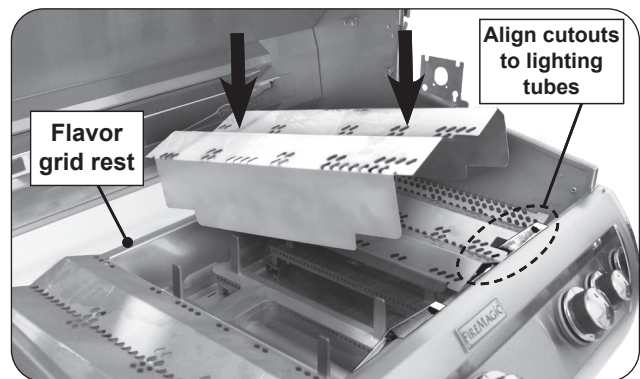
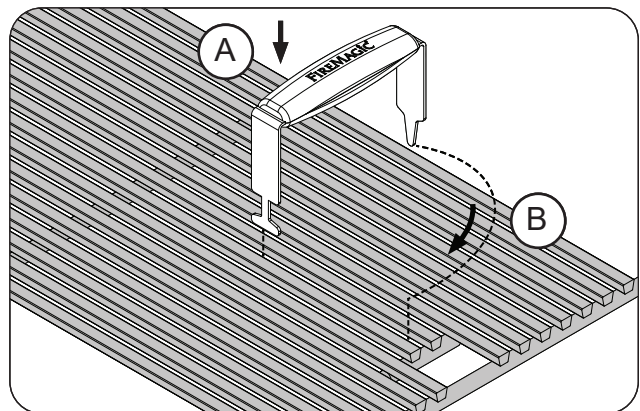

Fig. 26-2 Install flavor grids
Fig. 26-3 Install cooking grids
Place the flavor grids onto the front and rear flavor grid rests. Align the cutouts on the grids to the lighting tubes. See Fig. 26-2. **The short grids are designed to rest over the outer burners and the tall grid(s) over the inside burner(s).** The flavor grids allow heat from the burners to be evenly distributed throughout the cooking area.
1. With the prongs facing downward, insert the notched-end of the lifter between two grid rods, then rotate, as shown in Fig. 26-3, A & B.
Insert the rear pointed-end of the lifter between the same two rods (Fig. 26-2, B) and carefully lift the cooking grid and place onto the front and rear grid rests of the grill (see Fig. 26-3). Repeat for all other cooking grids.